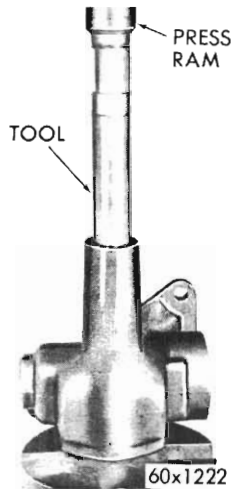

Fig. 7 - Removing cross-shaft needle bearings or installing outer needle bearings (typical) (Tool E19C20)
(10) Remove the cross-shaft needle bearings by placing the steering gear housing in an arbor press; insert Tool E19C20 (See Fig. 7) and press both bearings through the housing.
(11) Remove the wormshaft oil seal from the wormshaft bearing adjuster by inserting a blunt punch behind the seal and tap alternately on each side of the seal until the seal is driven out of the adjuster.
(12) Remove the wormshaft upper bearing cup in the same manner. This must be done carefully to avoid cocking the bearing cup and distorting the adjuster counter bore.
(13) To remove the lower cup, drive the plug out of the front end of the housing with a long blunt drift. Drive out the bearing cup with Tool E19C25A.
(14) Drive wormshaft oil seal from adjusting nut with Tool E19C25A.